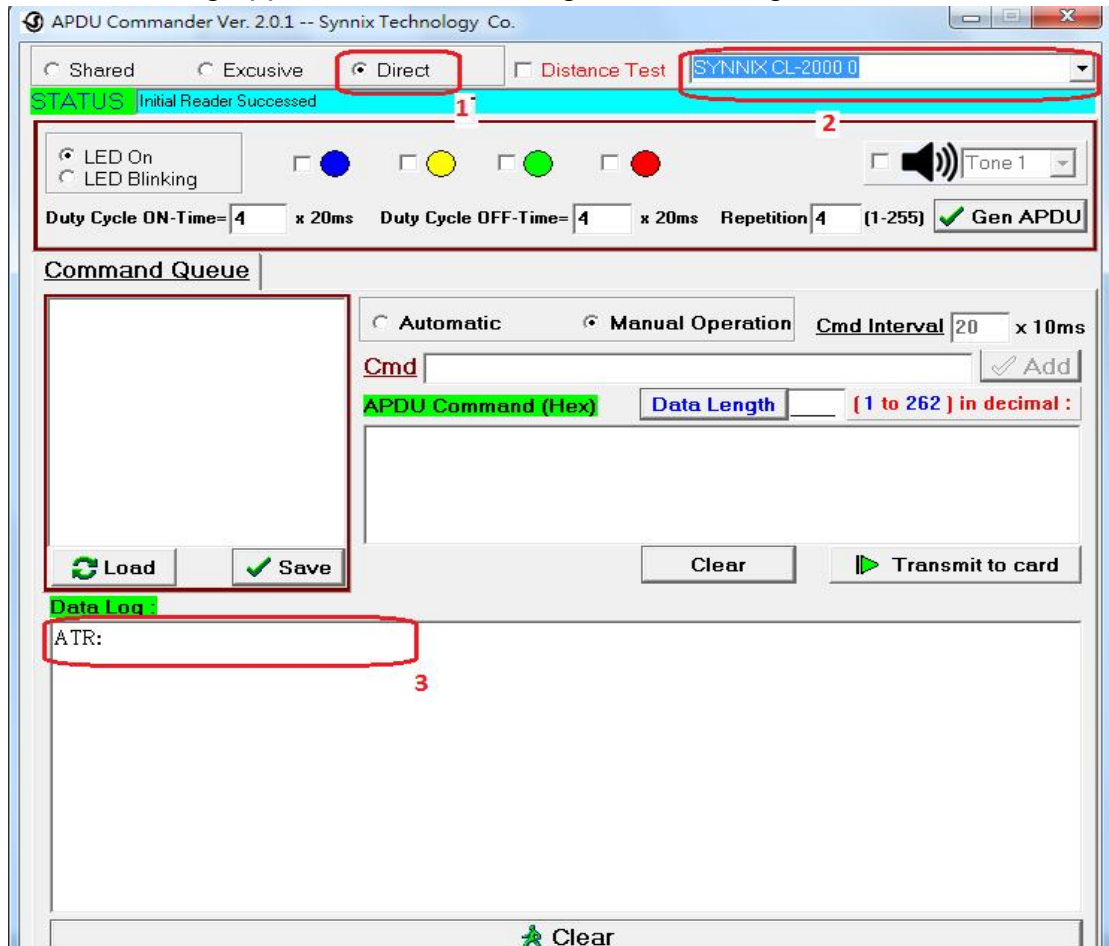

Figure 8
1. Click on the “Direct” . See Figure 8.
2. Pull-down the manu bar and select “SYNNIX CL-2000”. See Figure 8.
3. No ATR string appear on the “Data Log” field. See Figure 8.